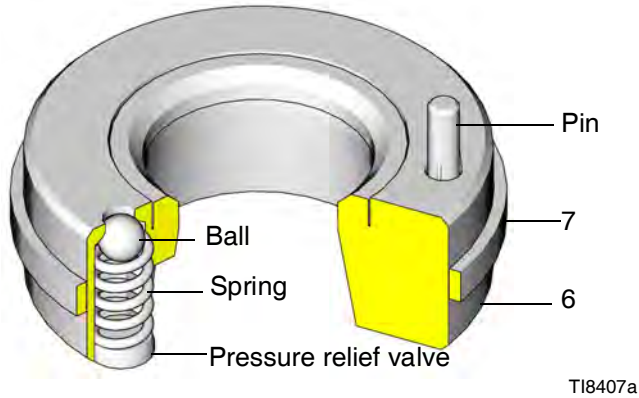

FIG. 2. Inlet Seat with Pressure Relief Valve
2. Use the **text cast into the inlet fluid housing (15)** as a guide to install the relief valve inlet seat (6★) The pin (See FIG. 2) on the seat must point into the inlet fluid housing (15). This pin limits the positioning of the seat (6★), ensuring that the vent hole is not blocked by part of the housing.
3. Install the inlet seat (33★) without a relief valve in the right side of the inlet fluid housing (15).